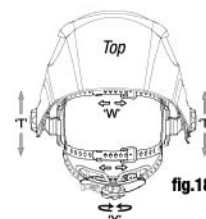

fig.18
The overall circumference of the headband can be made larger or smaller by rotating the knob on the back of the headband (See adjustment "Y" in fig.18). This can be done while wearing the helmet and allows just the right tension to be set to keep the helmet firmly on the head without it being too tight.
• If the headband is riding too high or too low on your head, adjust the strap which passes over the top of your head. To do this release the end of the band by pushing the locking pin out of the hole in the band. Slide the two portions of the band to a greater or lesser width as required and push the locking pin through the nearest hole (see adjustment "W" in fig.18).